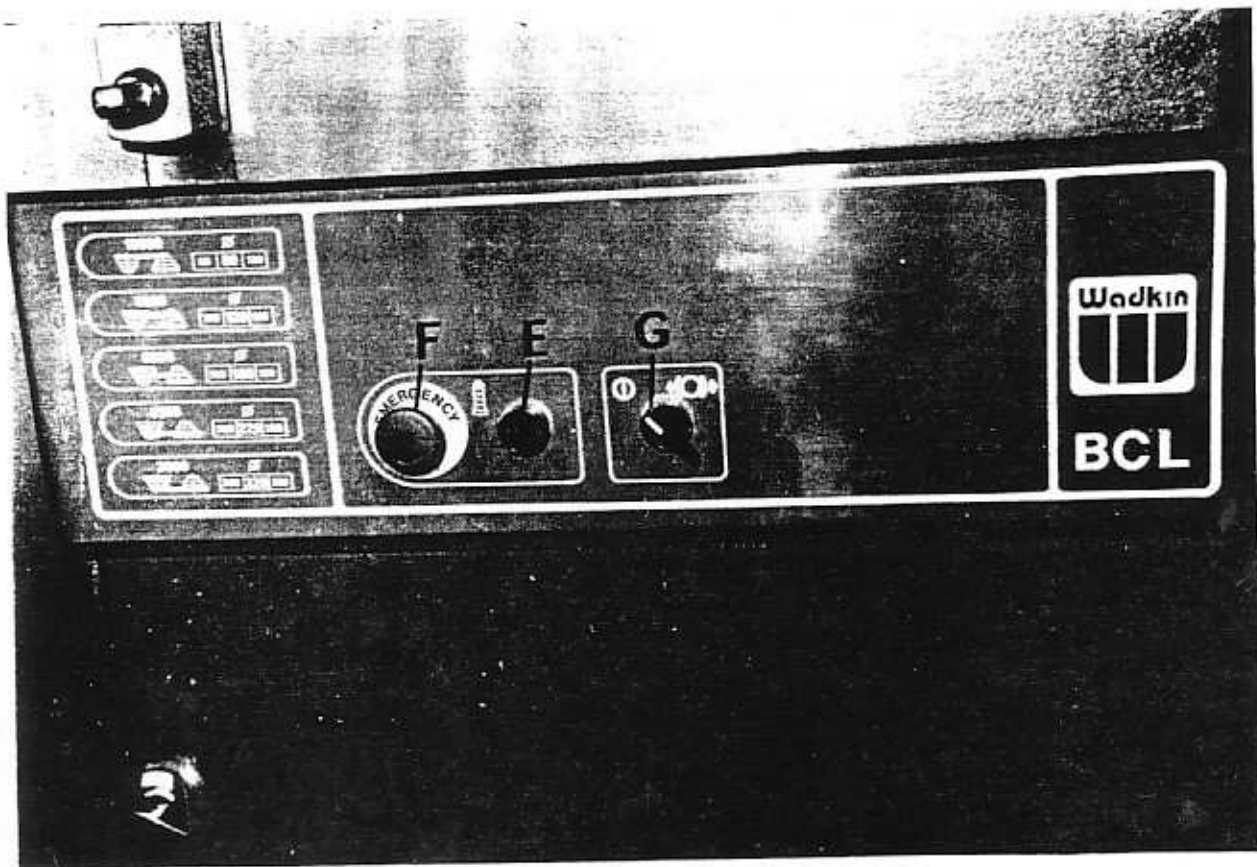
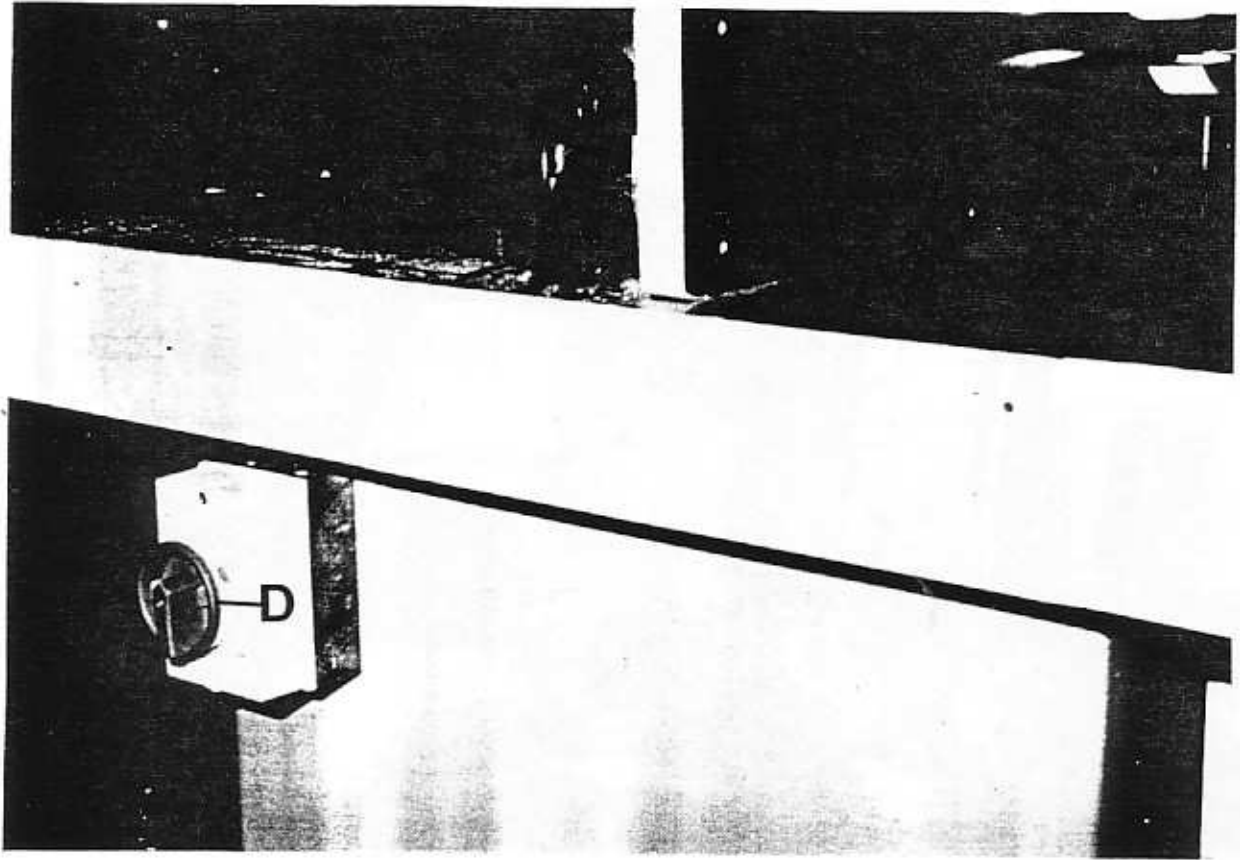

FIG. 5
FIG. 6
The control panel is shown in FIG.5. When isolator "D" FIG.6 is fitted, ensure it is in the 'ON' position before operating.
The spindle is controlled by start button "E" and emergency stop button "F", FIG.5.
- c) Disengage brake by switch "G" FIG.5.